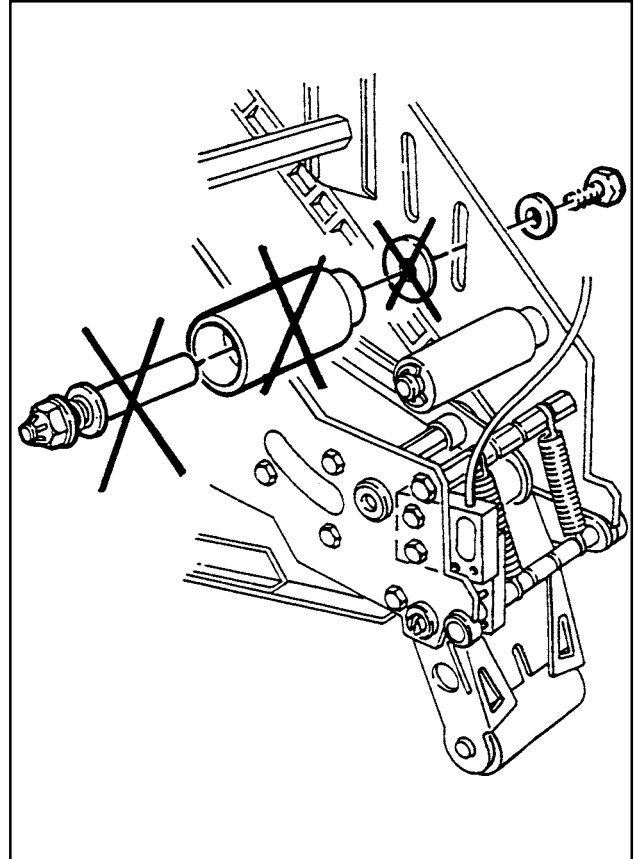

Figure 2
1. Remove the M6 x 10 mm hex head capscrew that fastens the tension roller shaft to the taping head side plate and remove the roller/shaft assembly. See Figure 2.